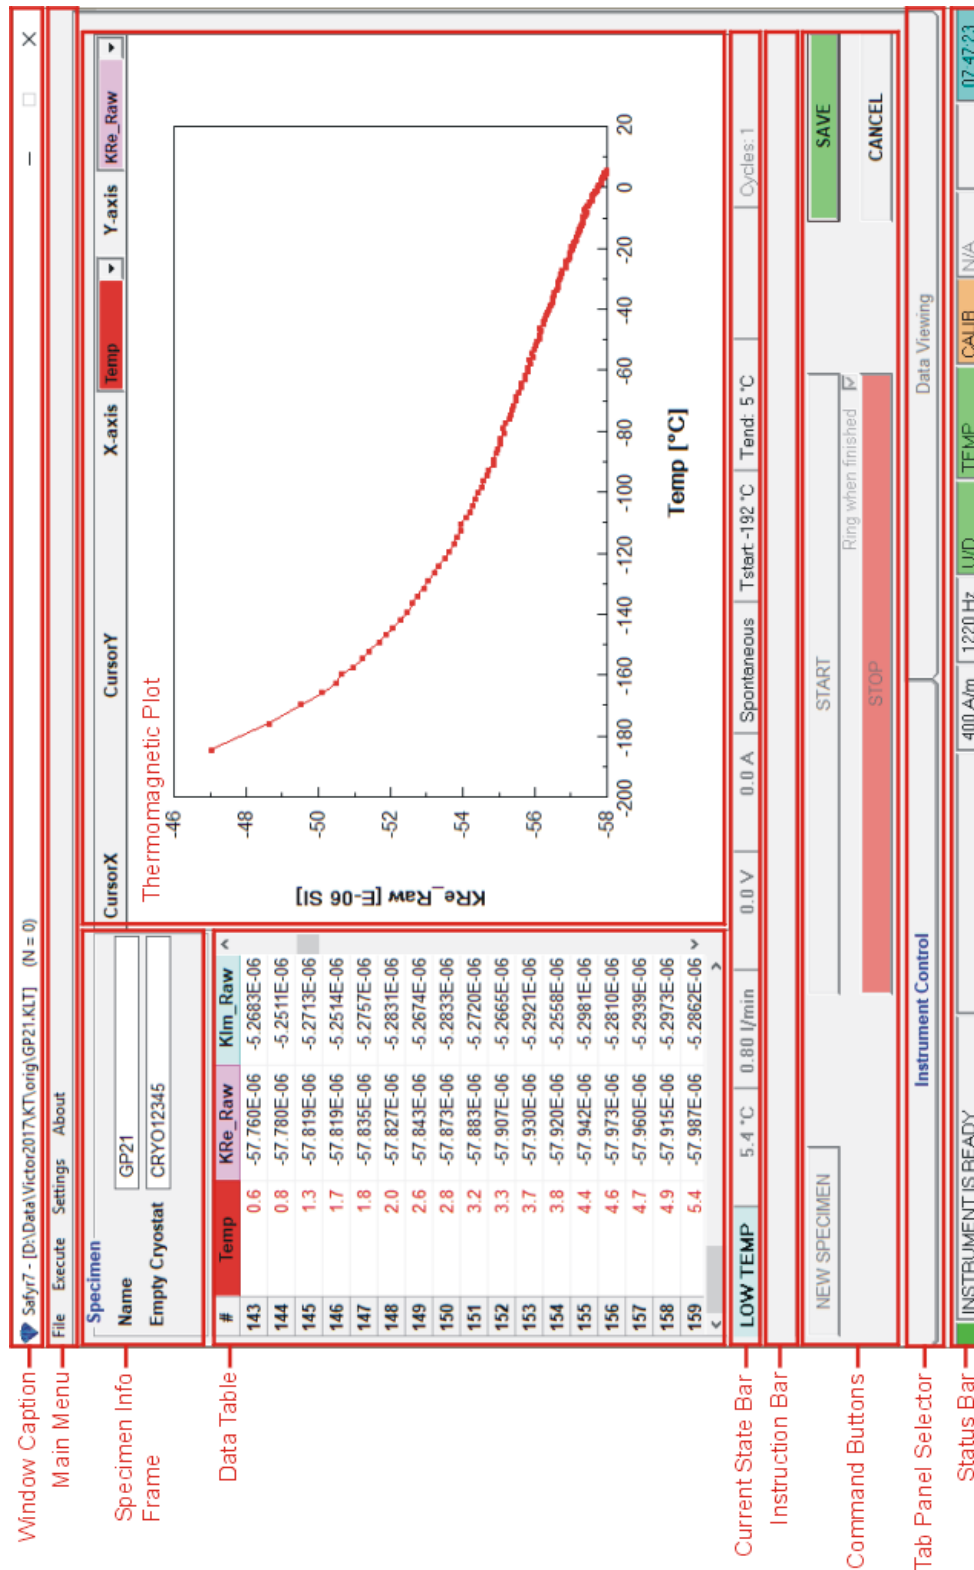

Figure 26: An example of the Safyr7 Main Window controlling the Low Temperature Mode.
The Low Temperature Mode can be set in the **Instrument Settings** window (  or ), see Section 3.1.1.5, Page 15. The **Safyr7 Main Window** for the Low Temperature Mode is shown in Figure 26.
9. The average temperature (from the pre- and post measurement temperature readings) and measured susceptibility values are appended to the **Data Table** and the **Thermomagnetic Plot** is continuously re-drawn (Figure 26).